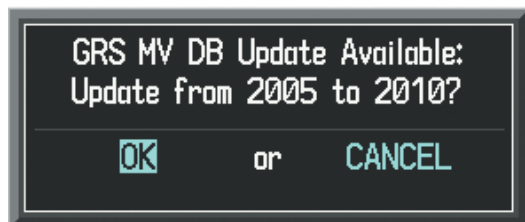

Figure B-12 GRS Magnetic Field Variation Database Update Prompt
- 1) With 'OK' highlighted, as shown in figure B-12, press the **ENT** Key on the MFD. A progress monitor is displayed as shown in Figure B-13.